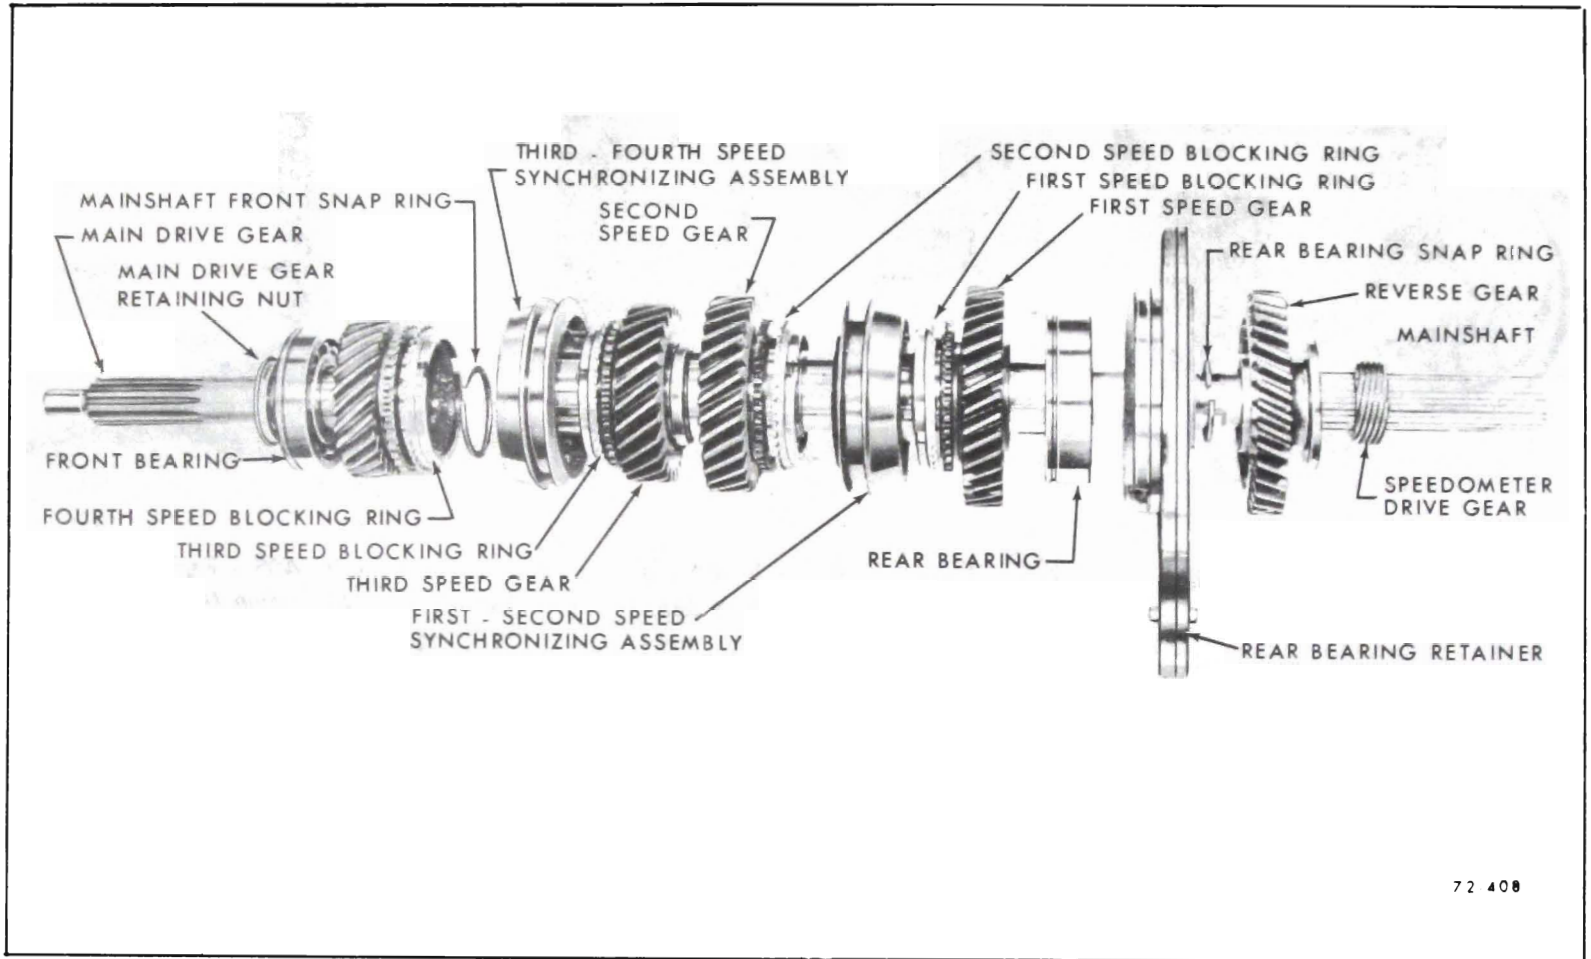

Figure 72-408 · Exploded View of Main Shaft Assembly
a. Disassembly - Refer to Figure 72-408
c. Place three (3) keys and two springs in position (one on each side of hub) so all three (3) keys are engaged by both springs. Synchronizer springs should be installed so tanged end of each spring falls into the same key in the hub. Slide the sleeve onto the hub aligning the marks made at disassembly.
c. Assembly - Refer to Figure 72-408